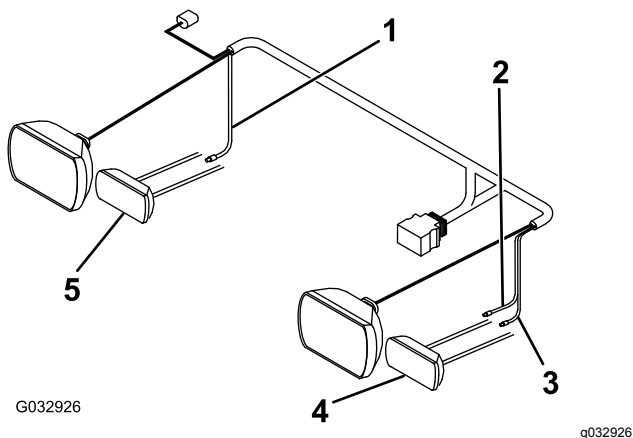

Figure 20
5. Connect the pink wire from the long wire harness to the right turn signal wire using a splice connector (Figure 20).
6. Connect the violet wire from the long wire harness to the left turn signal wire using a splice connector (Figure 20).
7. Connect the yellow wire from the long wire harness to the left park light wire using a splice connector (Figure 20).